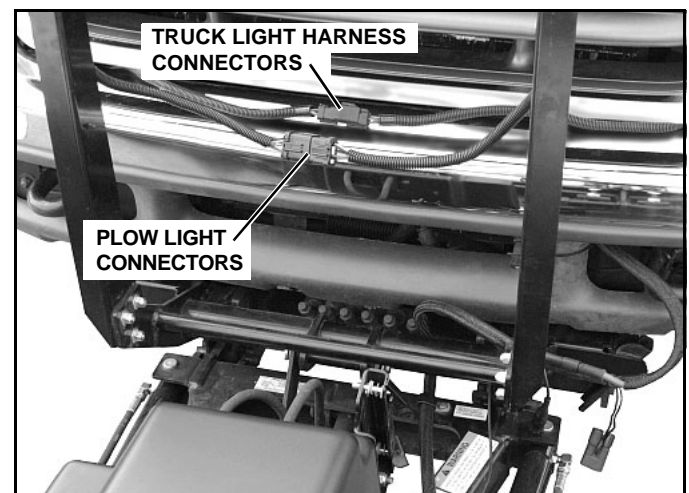

Figure 1-25
8. Unplug light harness connectors on truck, and light connectors on plow, which had been plugged together for corrosion protection during storage. (See Figure 1-25).